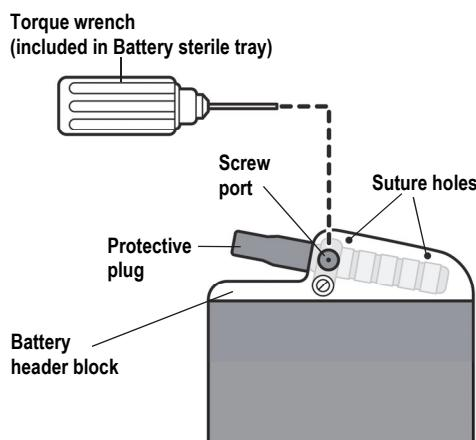

**Figure 30: Secure the Transmitter with sutures tied over the attachment wings**
- 20.** The Transmitter is secured within the ICS with sutures placed through the outer layer (perichondrium) of the costal cartilage and tied over the attachment wings. For deep incisions, use the needle holder. Engage the suture needle through the perichondrium of the costal cartilage. Install a minimum of 1 suture into the superior costal cartilage and a minimum of 1 suture into the inferior costal cartilage. To accommodate variations in the curvature and profile of the costal cartilages, the sutures can be installed anywhere around the perimeter of the attachment wings. To prevent Transmitter movement, tighten all sutures such that they engage the catch features on the internal surface of the attachment wings. See Figure 30.